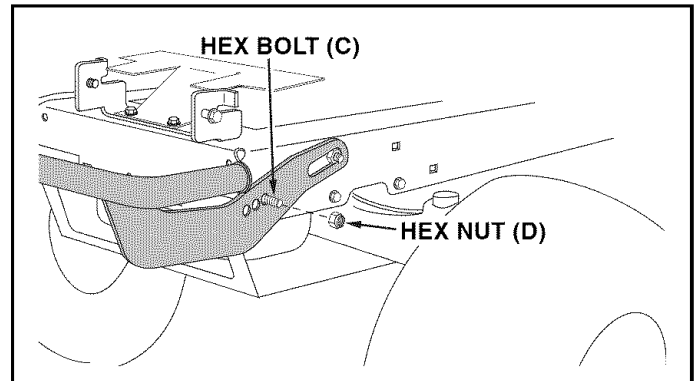

FIGURE 5
**STEP 4: (SEE FIGURE 5)**
- The bumper has three mounting holes. The rear hole provides the most clearance while the forward holes provide a neater appearance. Use a hole that provides enough clearance for hood to stay in raised position when opened. Insert a hex bolt (C) through tractor frame and into desired mounting hole on each side of bumper and secure with a hex nut (D).